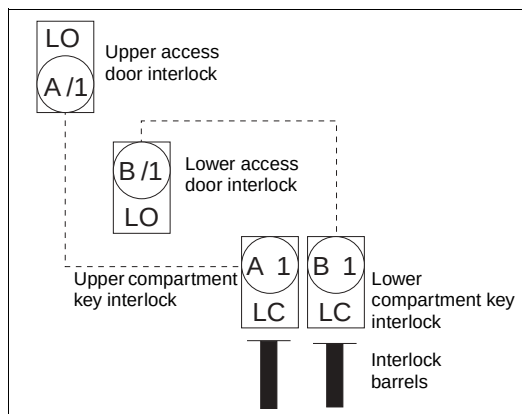

Figure 6: Interlock Status, Step 1
1. To perform inspection, both access doors need to be open. If necessary, lock open both of the access door interlocks (see Figure 6) and open doors.